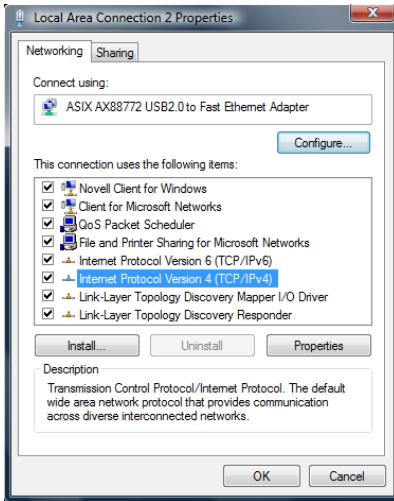

Figure 3.2 Local Area Connection Properties window
4. Select Internet Protocol Version 4 (TCP/IPv4) from the list and click the properties button. See Figure 3.2.